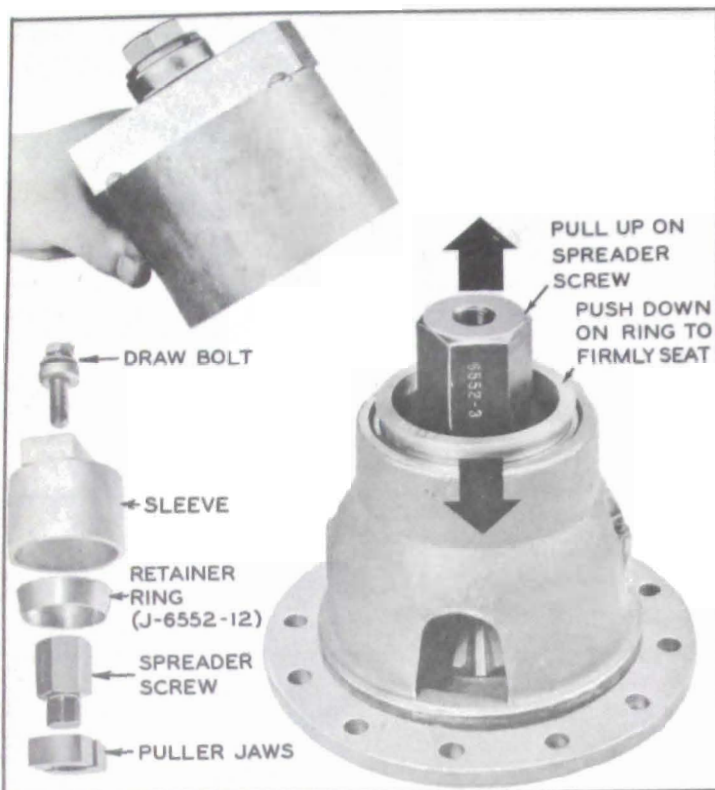

Figure 6-18—Removing Differential Bearing Outer Race
8. If a differential bearing is to be replaced, pull bearing outer race from case with Remover J-6552 using the following procedure: (See Figure 6-18)